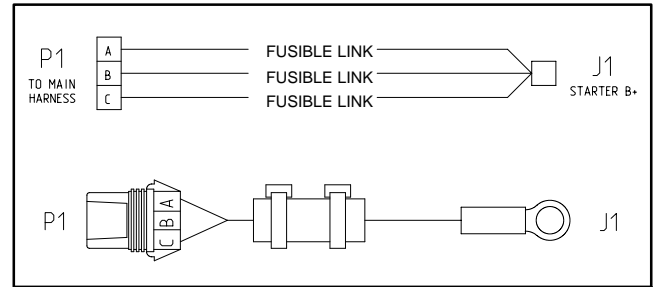
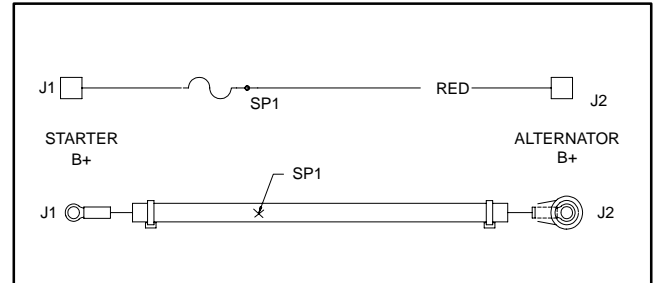

Figure 51
Figure 52
The Groundsmaster 4100-D uses five (5) fusible links for circuit protection. Three (3) of these fusible links are located in a harness that connects the starter B+ terminal to the wire harness (Fig. 51). An additional fusible link is used that connects the starter B+ terminal to the alternator B+ terminal (Fig. 52). The remaining fusible link is included in the wire harness and connects the starter terminal to the engine run solenoid pull coil. If any of these links should fail, current to the protected circuit will cease. Refer to the Electrical Schematic and Circuit Diagrams in Chapter 9 - Foldout Diagrams for additional circuit information.